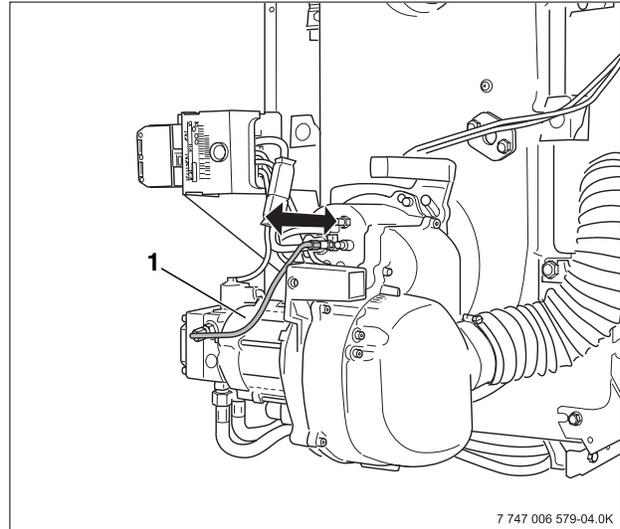

Fig 31 Check proper position of mixing system/diffuser plate
- Pull out the oil line about 1/4" (Fig. 31, **Item. 1**).